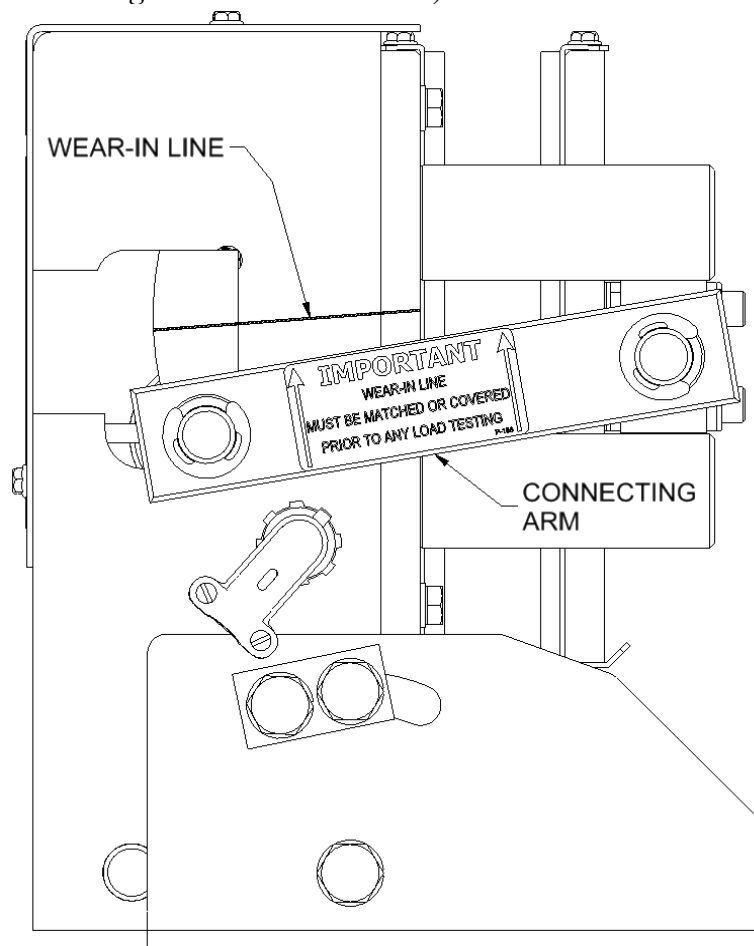
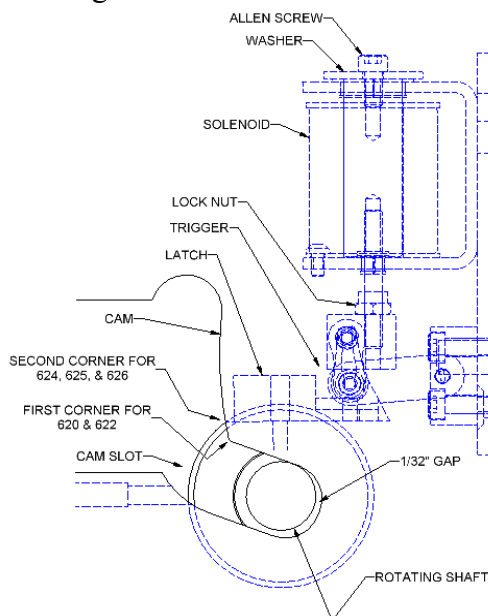

FIGURE 8
FIGURE 9
6. As the linings wear-in, the rotating shaft will move up the cam slot and around the corner(s) of the cam noted below (**Figure 9**), and the connecting arms will move up the side wall and begin to match or line up with the wear-in line (see **Figure 8**) marked on the side wall.
Note: #624, #625, #626 and #626SPL have **two** corners. These grippers are not worn-in until the rotating shaft goes past the **second** corner of the cam as noted below (see **Figure 9**) and the connecting arm meets or covers the line marked on the side wall.